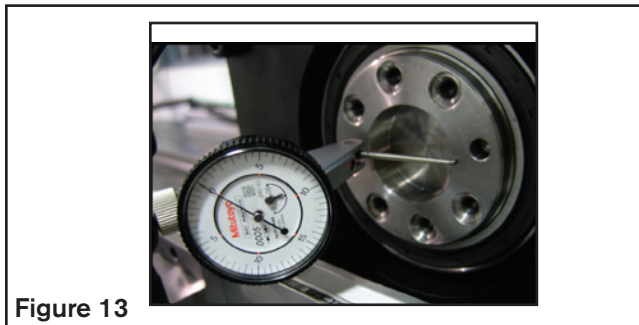

Figure 13
2. Using a dial indicator, check the rotational flatness of the face as shown in Figure 13. Position the contact point of the indicator where the pinion will contact it. Rotate slowly for a minimum of one complete revolution and note the total amount of runout.